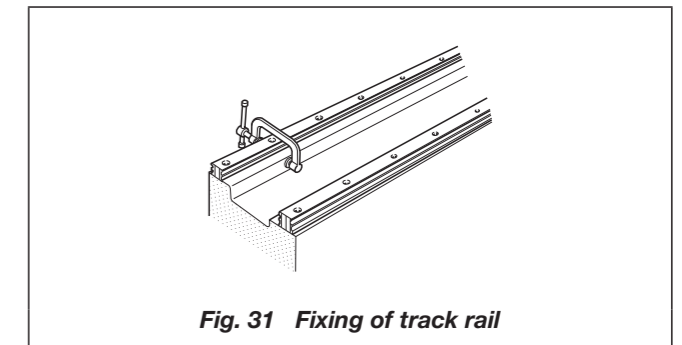

Fig. 31 Fixing of track rail
③Final fixing of Linear Way I track rail
- Firmly push the reference mounting surface of Linear Way I track rail to the mating reference mounting surface of the bed using a small vise or clamp. Tighten the track rail mounting bolt at the position of the vise or clamp. Fix the track rail by progressively moving the vise or clamp from one rail end to the other. (See Fig. 31.)